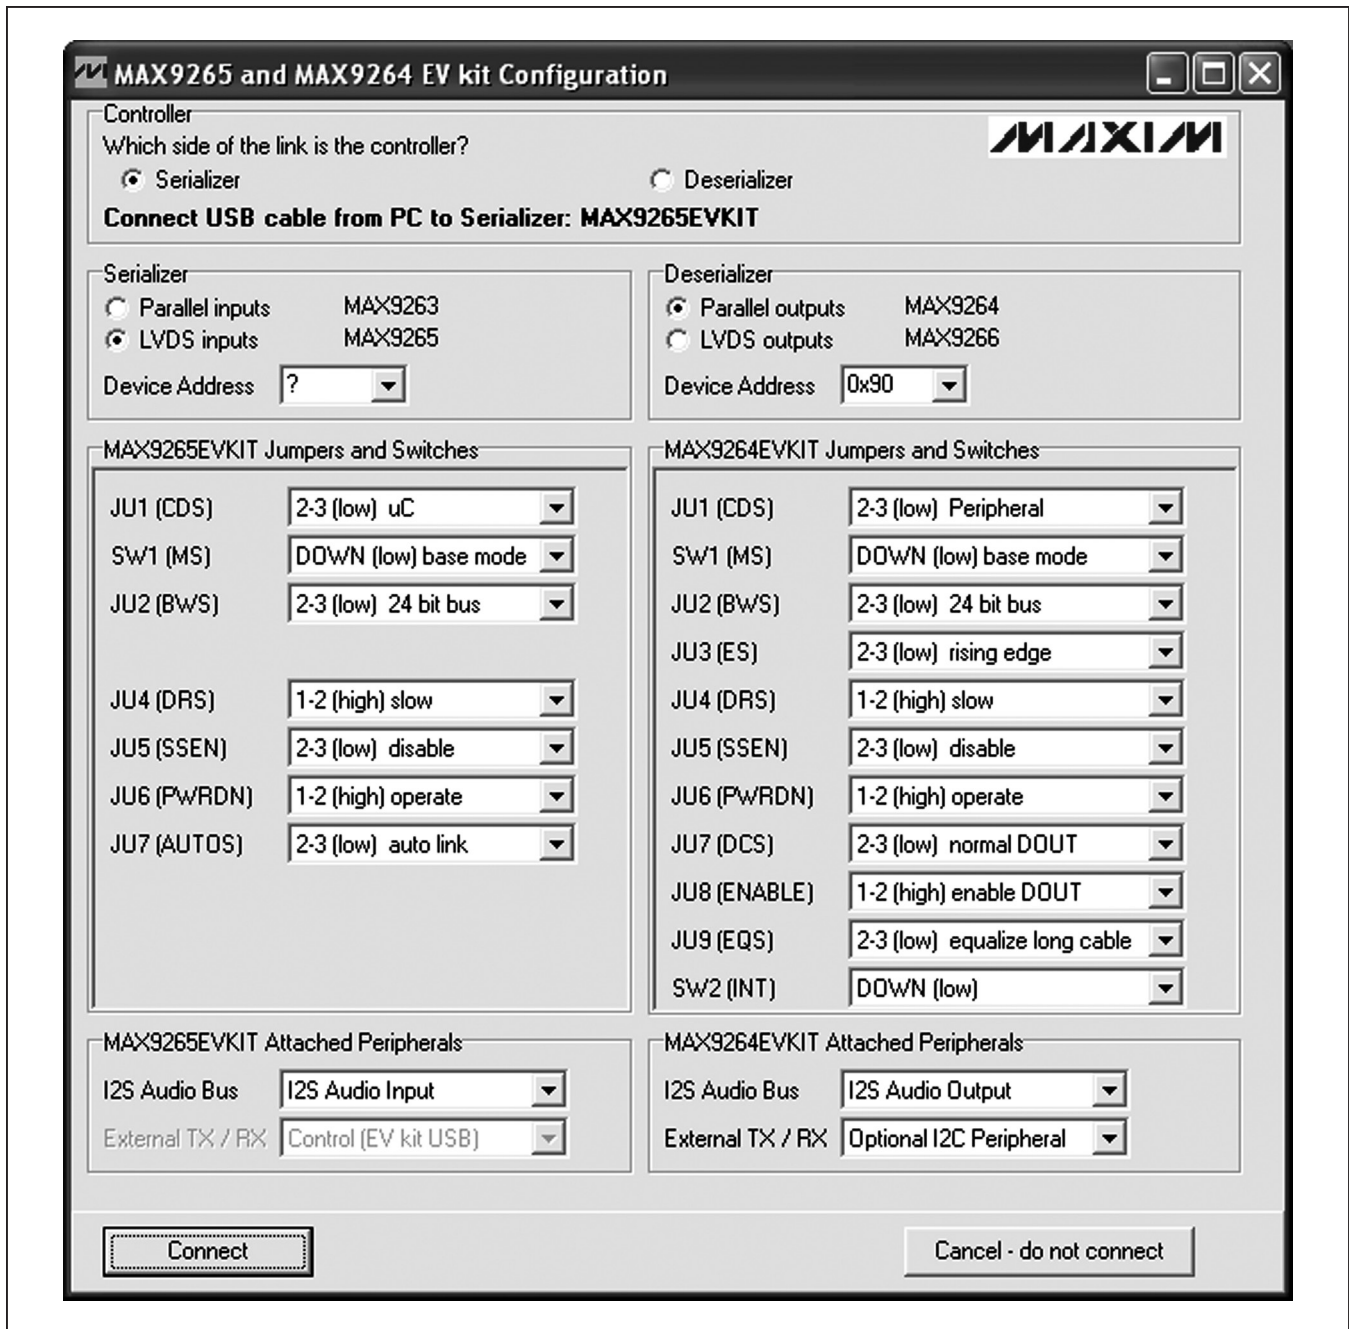

Figure 8. MAX9265/MAX9264 EV Kit Software Configuration Window
- 15.2) Start the MAX9265 EV kit software by opening its icon in the **Start | Programs** menu. The EV kit software configuration window appears, as shown in Figure 8.
The **Change Configuration** button brings up the software **Configuration** window (Figure 8), allowing the software GUI to select which side of the link the USB cable should be plugged into. Controlling from the MAX9264 side requires changing some jumper settings, as described in this window. If the MAX9265 and MAX9264 device addresses have been previously changed from their factory power-on-reset (POR) values, the new addresses must be specified in the software **Configuration** window to allow register access.